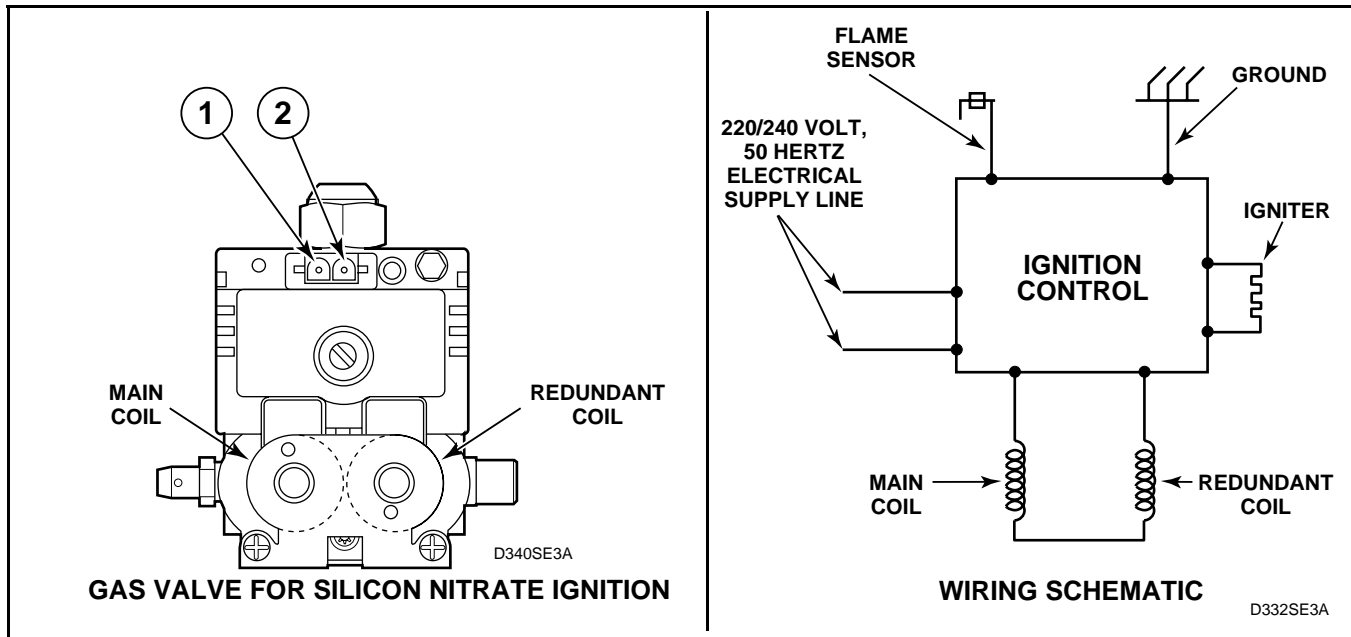

Figure 65
(Figure 65)
- d. Remove valve wire harness disconnect block from the gas valve. See *Figure 65*.
- f. Set test meter to read AC voltage and apply meter probes into terminals on the dryer harness plug that would correspond to terminals 1 and 2 on the coil. See *Figure 65*. Meter should register line voltage in all Fabric settings, except FLUFF which should read “zero” VAC.